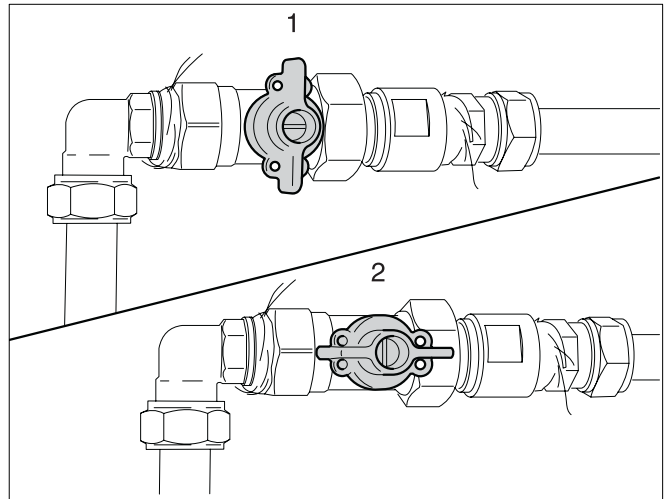

Fig. 111 Gas shut-off valve closed (1), gas shut-off valve open (2)
- Open the gas shut-off valve (see fig. 111, pos. 2)